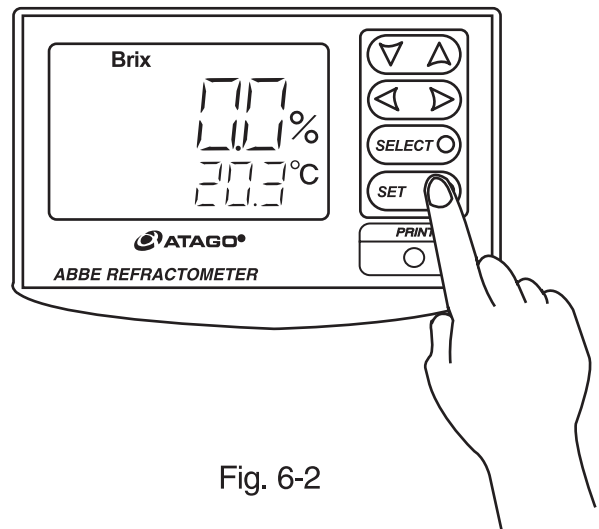

Fig. 6-2
- ② When the desired mode is selected, press the SET key (Fig. 6-2).